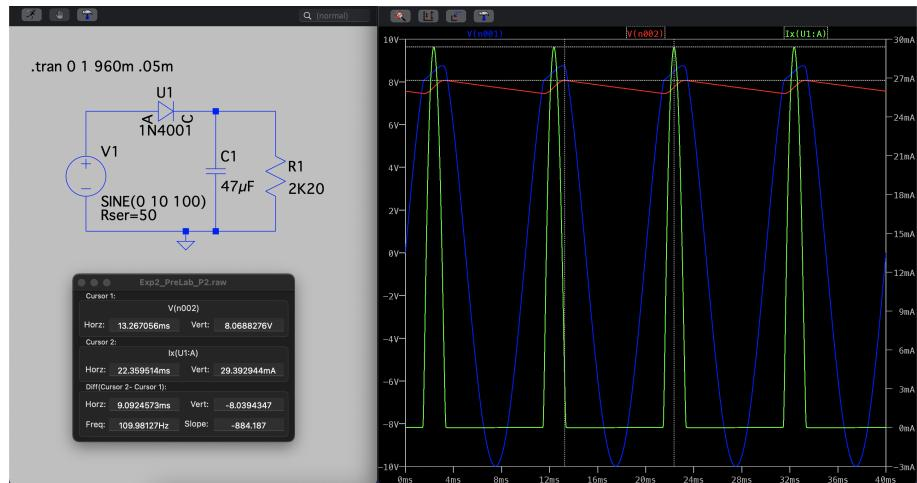

Figure 4:  $U_L$ ,  $V_{in}$ , and  $I_D$
- Figure 4 shows the circuit with  $C_1$  built in LTSpice and the plot of  $U_L$ ,  $V_{in}$ , and  $I_D$ .
- From Figure 4, peak voltage at  $R_L$  and the peak current  $I_D$  can be obtained.